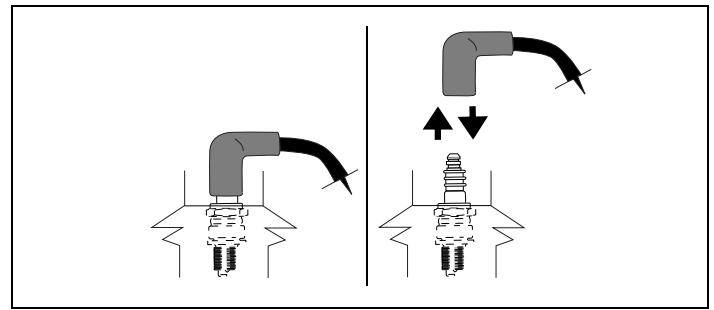

Figure 19. Disconnecting/Connecting Spark Plug
1. Disconnect spark plug wire and keep it away from spark plug. See "G. Avoid Accidental Starts" instructions on page 2. See Figure 19.